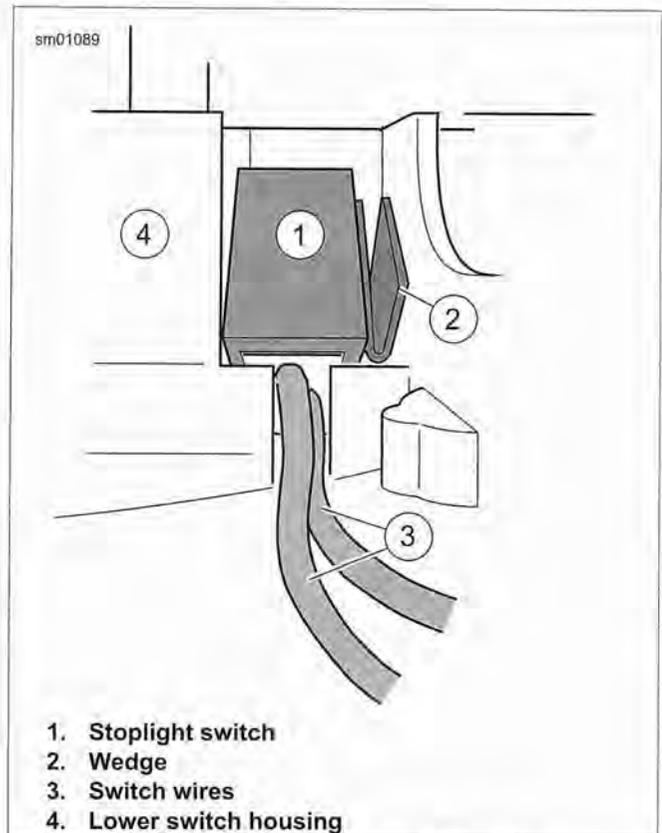

Figure 6-142. Install Stoplight Switch
6. See Figure 6-142. Push down on switch (1) so that it bottoms against housing and wires (3) run in groove at base of cavity. With the concave side facing outward, insert wedge (2) between switch and outboard side of switch housing.